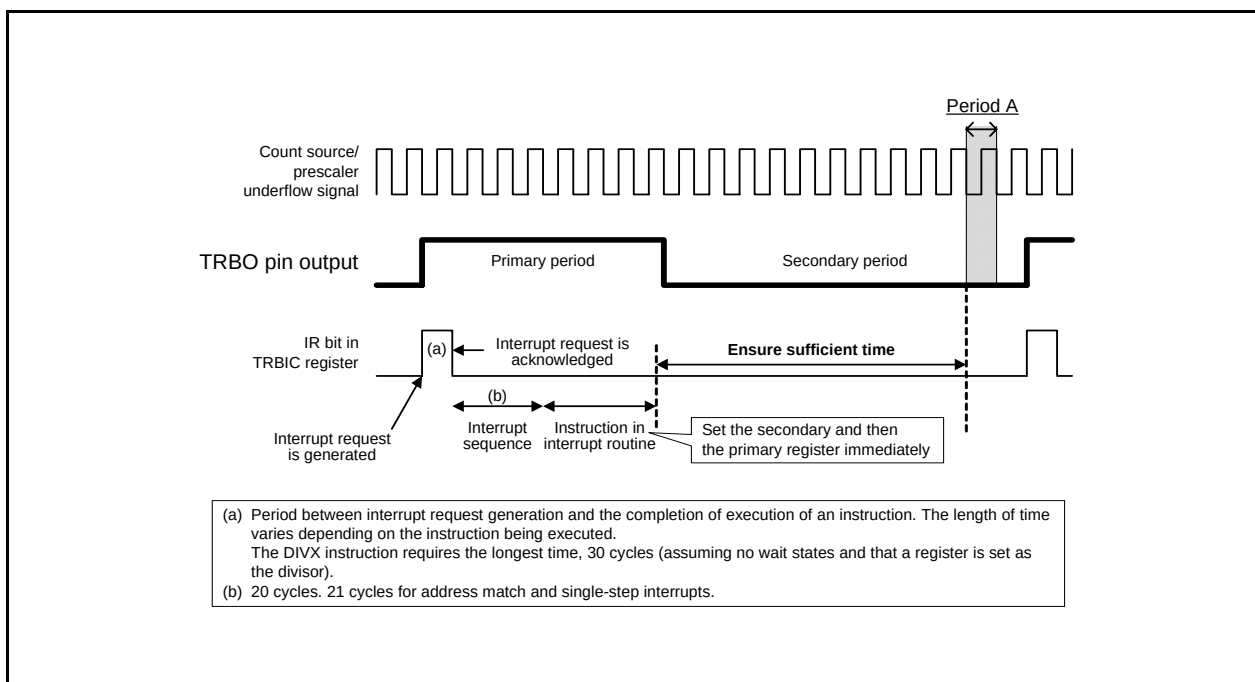

Figure 22.2 Workaround Example (a) When Timer RB Interrupt is Used
- (1) To write to registers TRBPRES and TRBPR during count operation (TCSTF bit is set to 1), note the following points:
- (2) To change registers TRBPRES and TRBPR during count operation (TCSTF bit is set to 1), synchronize the TRBO output cycle using a timer RB interrupt, etc. This operation should be performed only once in the same output cycle. Also, make sure that writing to the TRBPR register does not occur during period A shown in Figures 22.2 and 22.3.
As shown in Figure 22.2, write to registers TRBSC and TRBPR in the timer RB interrupt routine. These write operations must be completed by the beginning of period A.